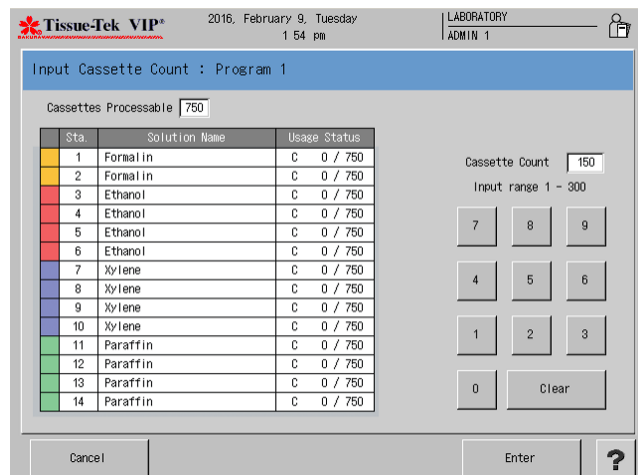

Figure 4-D
- Touch the **Cassette Count** button. The Input Cassette Count screen is displayed (Figure 4-D).